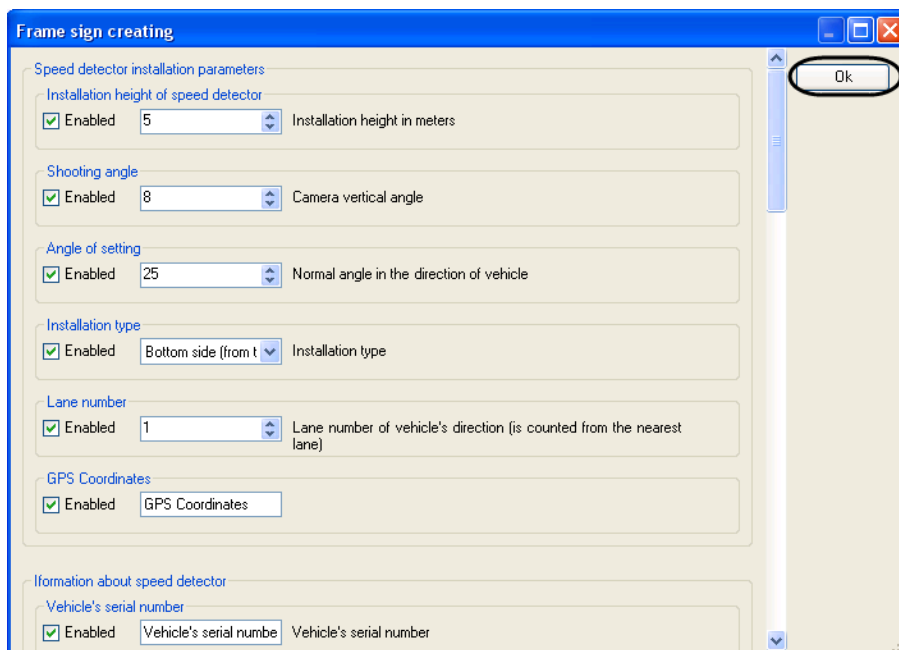

Fig. 7.2-12 Saving the changes in the dialog window Frame sign parameters
8. Click OK to save the changes and close Frame sign parameters window (Fig. 7.2-12).
Note. Click «» button to close the window without applied changes (Fig. 7.2-12).